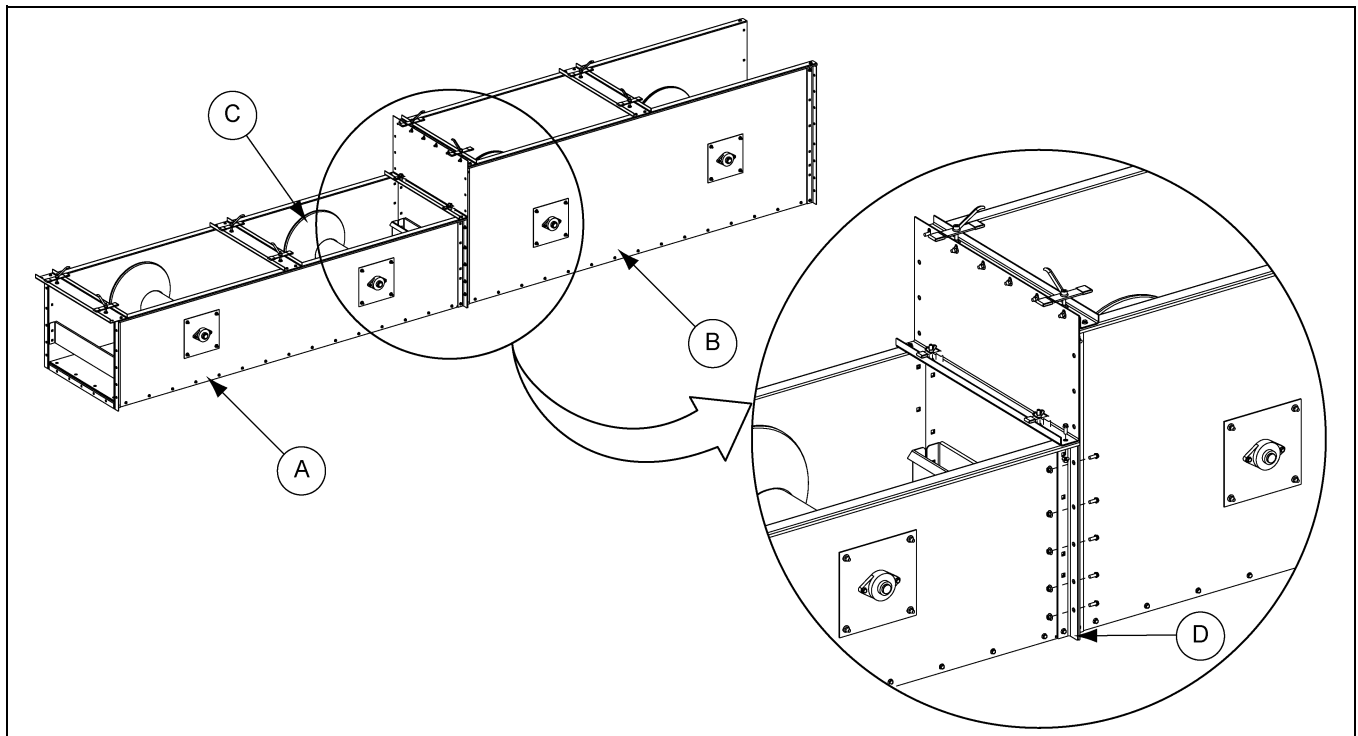

Figure 3A
1. Position the opening of the first trunking section in line with the standard intermediate section pulley (C).
2. Make sure the flanges of intermediate section (A) and trunking section (B) are aligned. Caulk the flanges (D) and tighten all hardware on the trough section.
3. Carefully inspect each flange joint to ensure that the inside, bottom and side surfaces of the intermediates are flush with the first tripper trunking section. (See Figure 3A.)